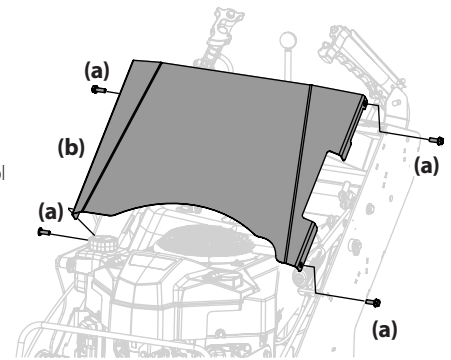

Figure 25
1. Remove the four screws (a) that secure the front panel (b) and remove the front panel (b). See Figure 25.